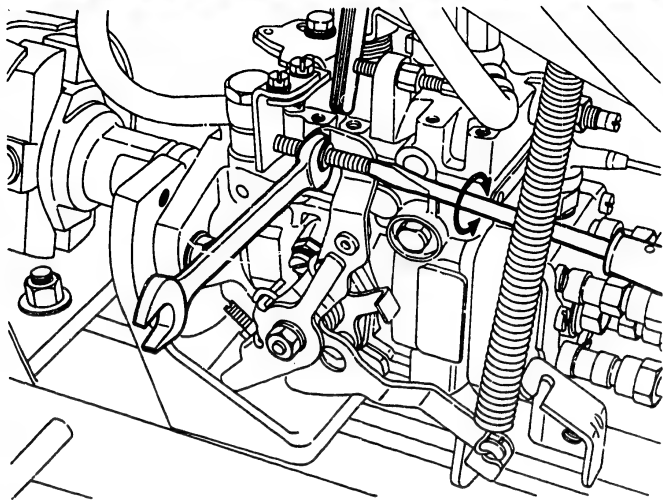

Fig. 173 Adjusting the control lever position
4. After moving the M-C.S.D. lever through its full stroke, adjust the control lever position by turning the adjusting screw so that the distance between the tip of the idle adjusting screw and the control lever is as specified. (Fig. 173)